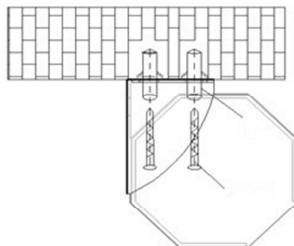

Fig.5
2. Insert wall anchors into the four drilled holes on the ceiling and then insert the screws through the end cap holes into the anchors and ensure that you tighten the screws without stripping the anchors (see Fig. 5).